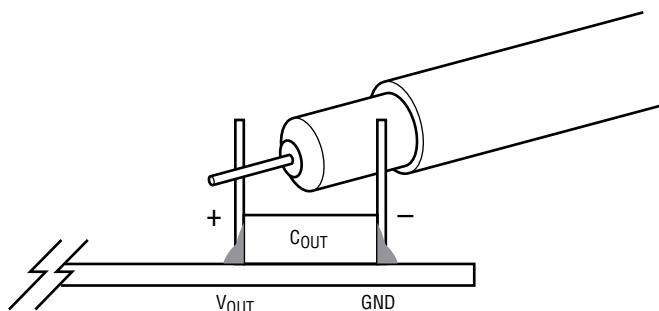

Figure 2. Measuring Output Voltage Ripple
1. When measuring the output or input voltage ripple, do not use the long ground lead on the oscilloscope probe. See Figure 2 for the proper scope probe technique. Short, stiff leads need to be soldered to the (+) and (-) terminals of an output capacitor. The probe's ground ring needs to touch the (-) lead and the probe tip needs to touch the (+) lead.